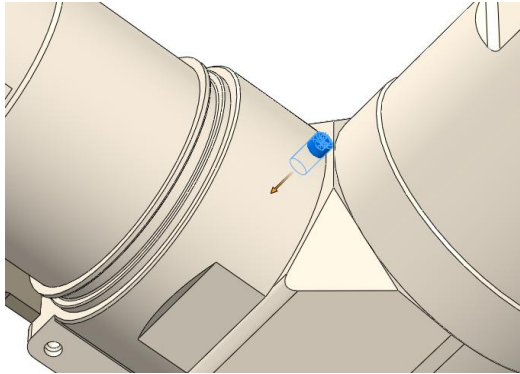

Fig. 17
4.2.5. Tighten the fastening screw at the inner corner of the elbow (blue part in Fig.17) to prevent the elbow from rotating and damage the button support on the shell.